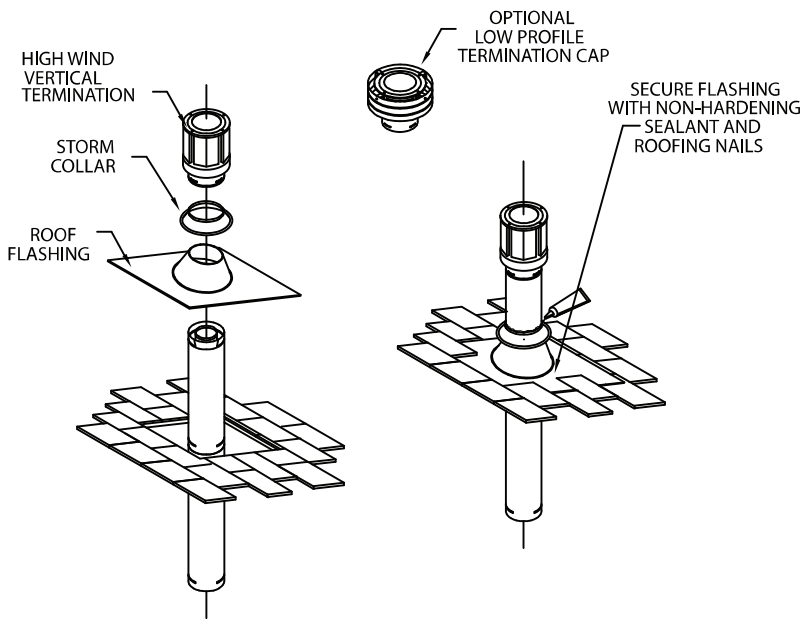

Figure 18
(3) Wherever possible, use 45° Elbows instead of 90° Elbows. The 45° Elbow offers less restriction to the flow of flue gases and intake air.
Step 7. Slip the Roof Flashing over the Pipe Section(s) protruding through the roof. Use a non-hardening sealant between the Roof Flashing and the roofing to prevent water leakage. Secure the base of the Roof Flashing to the roof with roofing nails. Ensure the roofing material overlaps the top edge of the Roof Flashing (Fig. 18). Verify that you have at least the minimum clearance to combustibles at the roofline and in the attic.
Step 9. Slip the Storm Collar over the Pipe Section, and push it down to the top of the Roof Flashing (**Fig. 18**). Use non-hardening sealant between the Storm Collar and the Pipe Section.